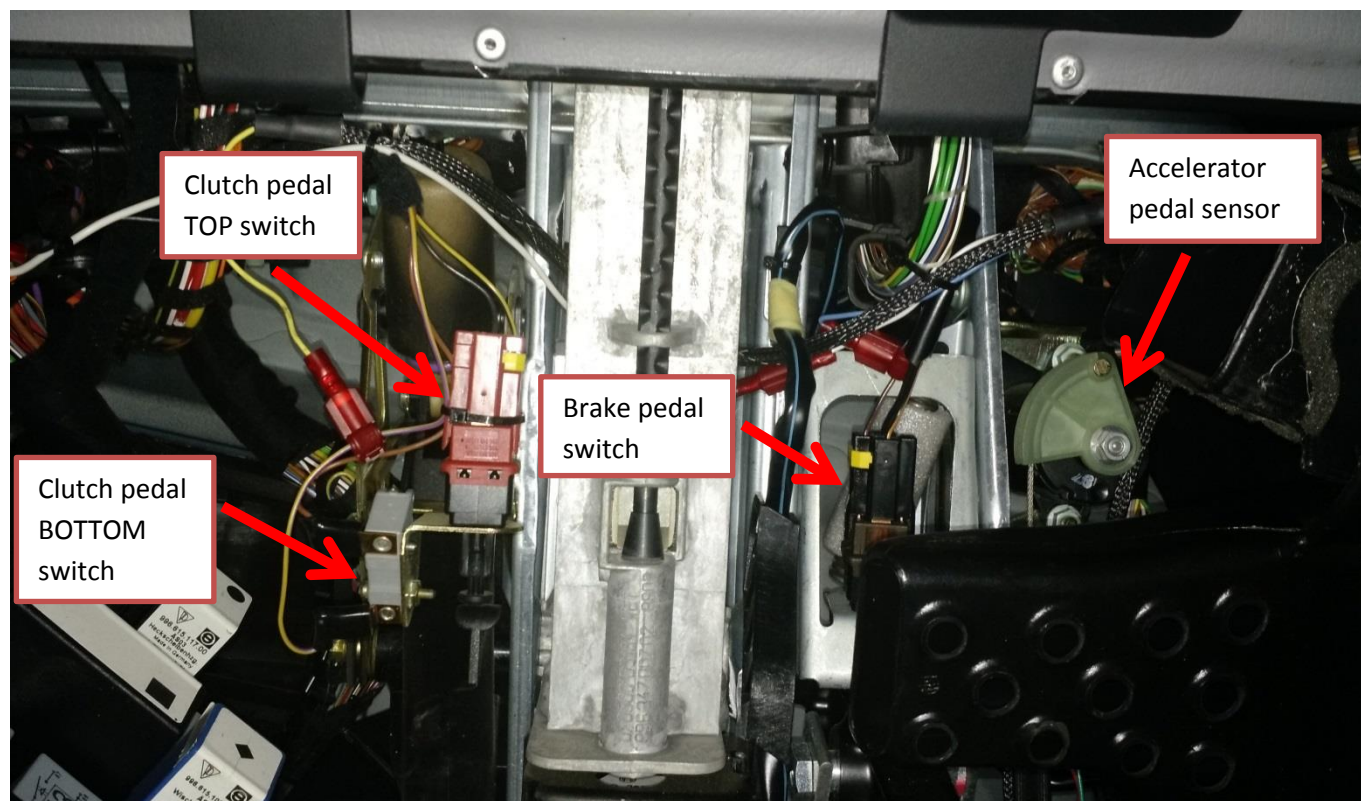

Figure 1a (General overview of the Sensors under the driver's dash)
1. Locate all the specified switches/sensors shown below on **Figures 1a & 1b**.